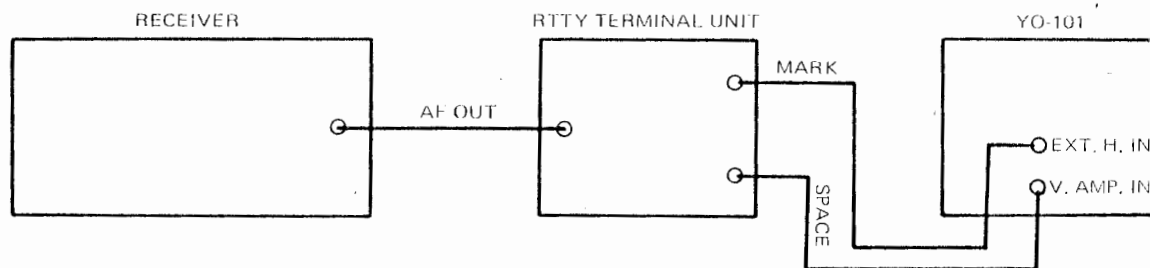

Figure 7
- (1) Connect a shielded cable from the mark terminal of the RTTY terminal unit to the EXT. H. IN (RTTY) jack, and a second cable from the space terminal to the V. AMP IN jack of the Monitor-scope, as illustrated in Figure 7.
- (2) Set the front panel controls as described in previous sections. Then set the V. AMP INPUT switch to V. AMP, and set the SWEEP FREQ switch to the EXT. II (RTTY) position. Make sure that the INTENSITY control is set as low as possible, to protect the screen when no signal is applied to the Monitor-scope.
- (3) The mark and space output of the terminal unit should be adjusted for an equal output when the receiver is properly tuned in. To check the equal output, insert the mark and space signal alternately into the vertical input of the scope and adjust the balance potentiometer of the scope until equal height is obtained.
- (4) After the balance potentiometer for equal output as described above, adjust the V. GAIN and H. GAIN controls for a cross pattern of equal length of horizontal and vertical trace. Once the desired pattern has been set, the gain controls on the Monitor-scope should be changed.